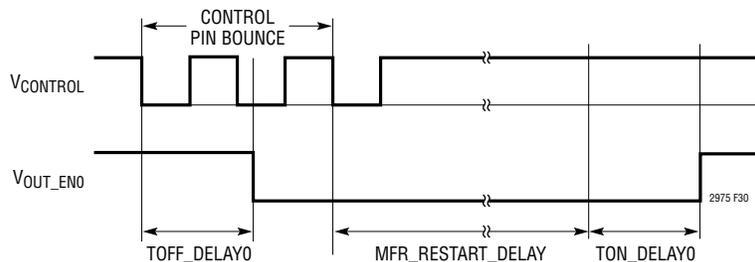
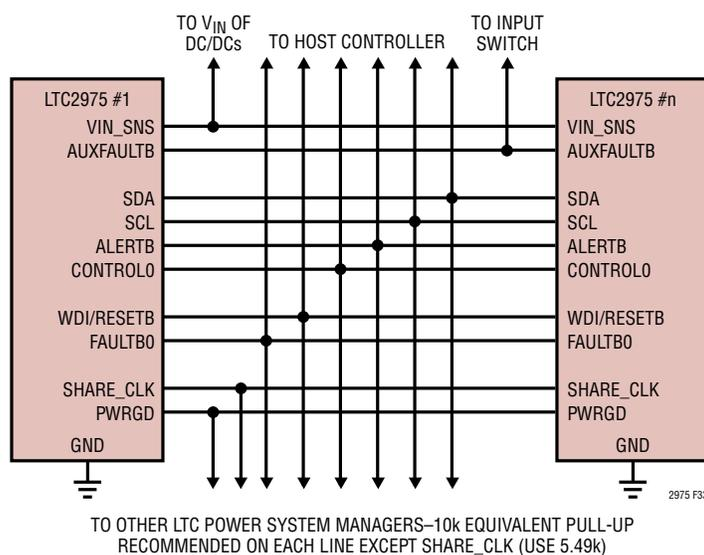

Figure 30. Off Sequence with Automatic Restart
Figure 33. Typical Connections Between Multiple LTC Power System Managers
An automatic restart sequence can be initiated by driving the CONTROL pin to the off state for >10 μ s and then releasing it. The automatic restart disables all V_{OUT_EN} pins that are mapped to a particular CONTROL pin for a time period = MFR_RESTART_DELAY and then starts all DC/DC Converters according to their respective TON_DELAYS. (see Figure 30). V_{OUT_EN} pins are mapped to one of the CONTROL pins by the MFR_CONFIG_LTC2975 command. This feature allows a host that is about to reset to restart the power in a controlled manner after it has recovered.
Figure 33 shows how to interconnect the pins in a typical multi-LTC2975 array.
- The `FAULTB` lines can be connected together to create fault dependencies. Figure 33 shows a configuration where a fault on any `FAULTB` will pull all others low. This is useful for arrays where it is desired to abort a startup sequence in the event any channel does not come up (see Figure 30).
- `PWRGD` reflects the status of the outputs that are mapped to it by the `MFR_PWRGD_EN` command. Figure 33 shows all the `PWRGD` pins connected together, but any combination may be used.